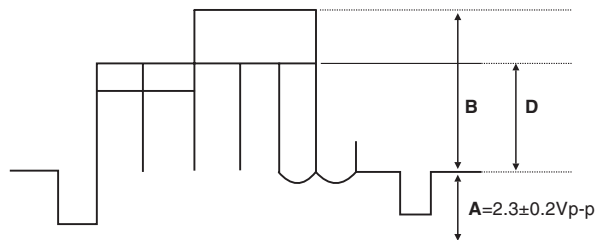

Fig. 1
- 2.1. Connect the oscilloscope in TPL2 (G-OUT) with a 10KΩ resistor and adjust "CONTRAST", so that the waveform in [B] it is of 2.6±0.1V according to fig. 1.
2. Adjust "SUB-COLOR" to obtain 2,45±0.1V in [D] according to fig. 1.